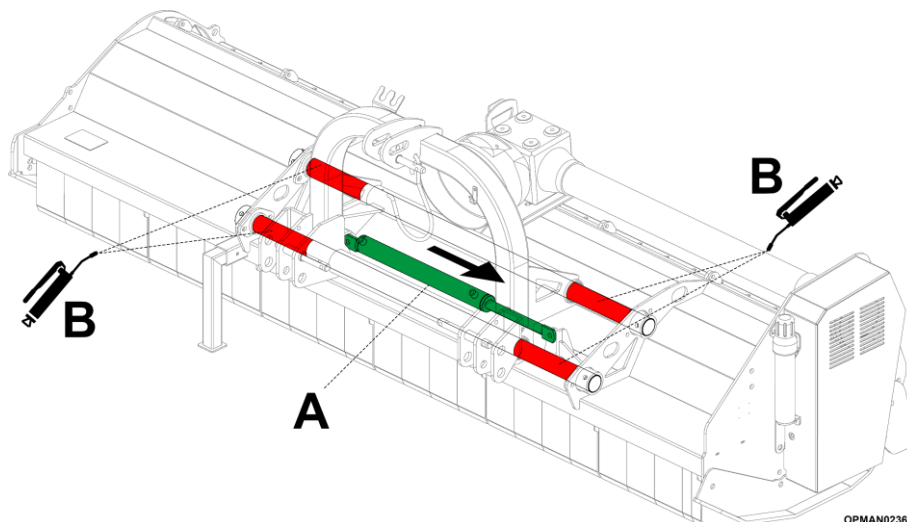

Figure 6
- With reference to Figure 6; for all machines, retract the hydraulic sideshift ram (A).